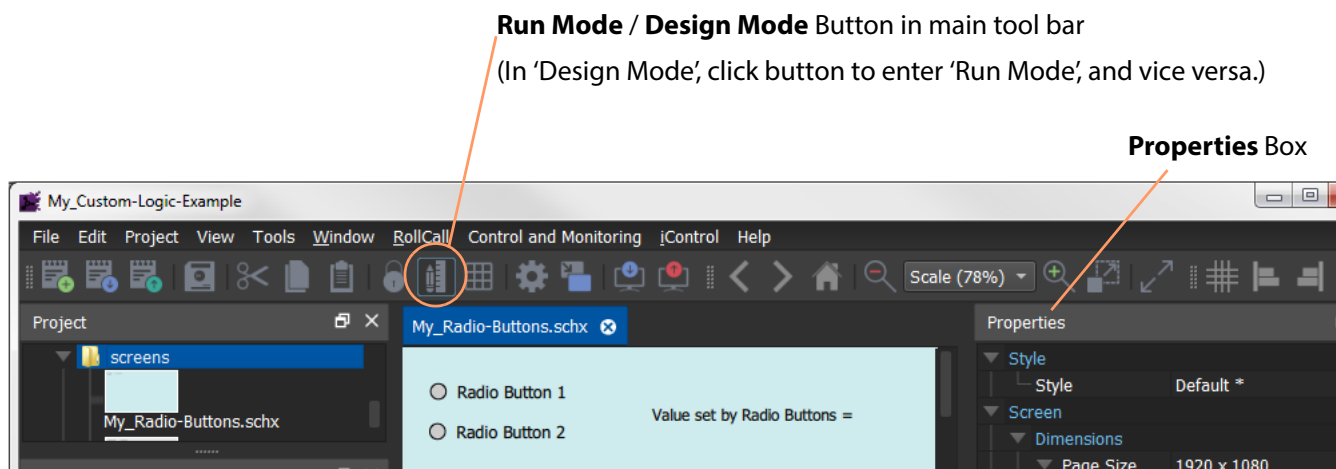

Fig. 2-29: Run Mode / Design Mode Button
- Click on the **Run Mode / Design Mode** button in the main menu. See Figure 2-29 and Figure 2-30.